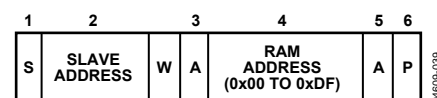

Figure 39. Setting a RAM Address for Subsequent Read
The SMBus specification defines several protocols for different types of read and write operations. The following abbreviations are used in Figure 39 to Figure 47:
- To write a register address to the RAM for a subsequent single byte read from the same address, or for a block read or block write starting at that address, as shown in Figure 39.